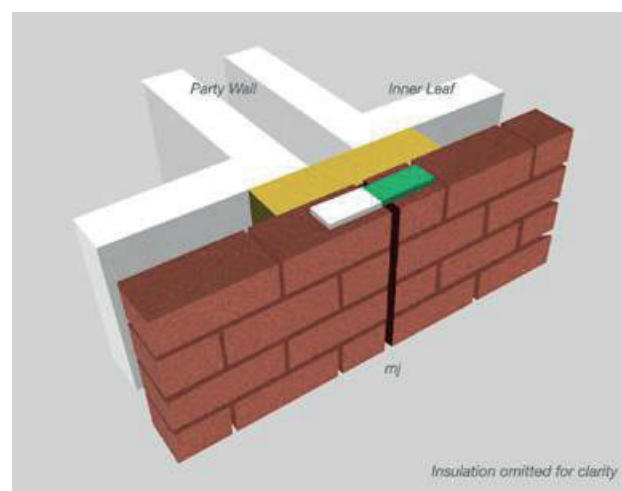

Figure 20.
- Placing vertical joints at locations, where lateral support from party walls or load bearing internal walls exists, will assist in the stability and resistance to wind loading. See *Figure 20*.